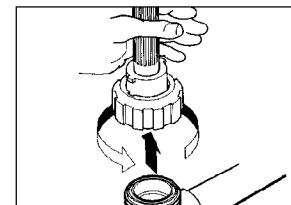

FIGURE 15
2. Close isolation valves and relieve pressure on the system by opening the sample valve. Remove sensor from flow assembly by unscrewing coupling ring. Pull sensor straight up with no side motion to prevent breakage (see fig. 15). Rinse and then inspect sensor. If deposits or fouling is present, clean sensor per instructions in Section 10, Maintenance, pg. 45.